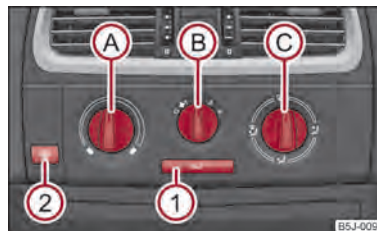

Fig. 74 Heating: Control elements
You can set the air supply to the individual vents with the air distribution control  ⇒ fig. 74. Air outlet vents 3 and 4 can also be opened or closed individually.
- Turn the control dial  ⇒ fig. 74 to the right in order to increase the temperature.
- Controls Ⓐ, Ⓑ, Ⓒ and the button ① ⇒ fig. 74.
- Press the button  ① ⇒ fig. 74 the warning light lights up in the button.
The recirculated air mode is switched off automatically if the air distribution control Ⓒ is in position  ⇒ fig. 74. You can also switch recirculated air mode on again from this setting by repeatedly pressing pushbutton .